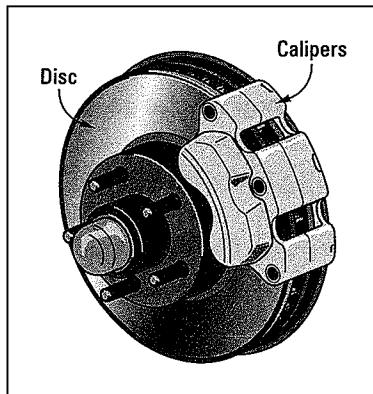

Figure 4-13:
4. The wheel has either a **disc brake** or a **drum brake**. To keep it simple, I'll just look at disc brakes here. (Drum brakes work on the same general principles; see Chapter 10.) A disc brake is composed of a flat steel disc (surprise!) sandwiched between a pair of calipers, as shown in Figure 4-13. These calipers contain one or more little pistons that are forced into the disc by the brake fluid.